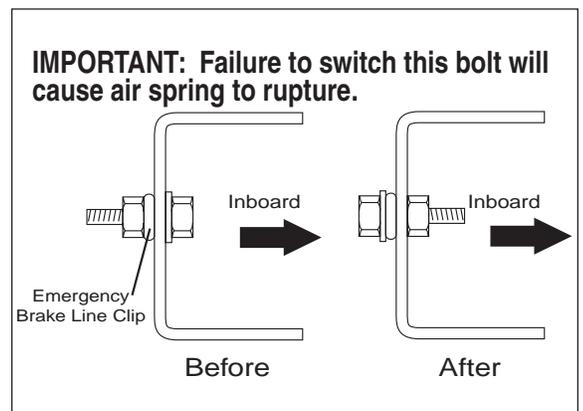

Figure 6
- b. *NOTE: For 1999 and later Super Duty F-250 and F-350 trucks, remove the bolt holding the emergency brake cable to the outside of the frame rail. Reinstall the bolt in the reverse order, with the nut on the inside of the frame rail to prevent rubbing against the air spring (Figure 6).*